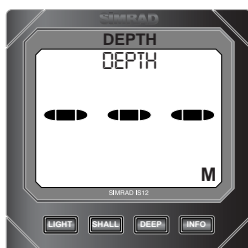

Fig 5.2 - Depth signal lost
3. The display will then show dashes (Fig 5.2)